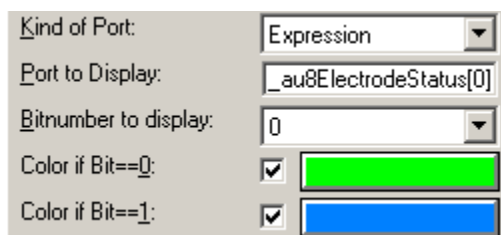

Figure 37. Properties window
5. Next, the LED turns on when the touch pad is touched. Double-click the LED. This brings up a Properties menu. See Figure 37.